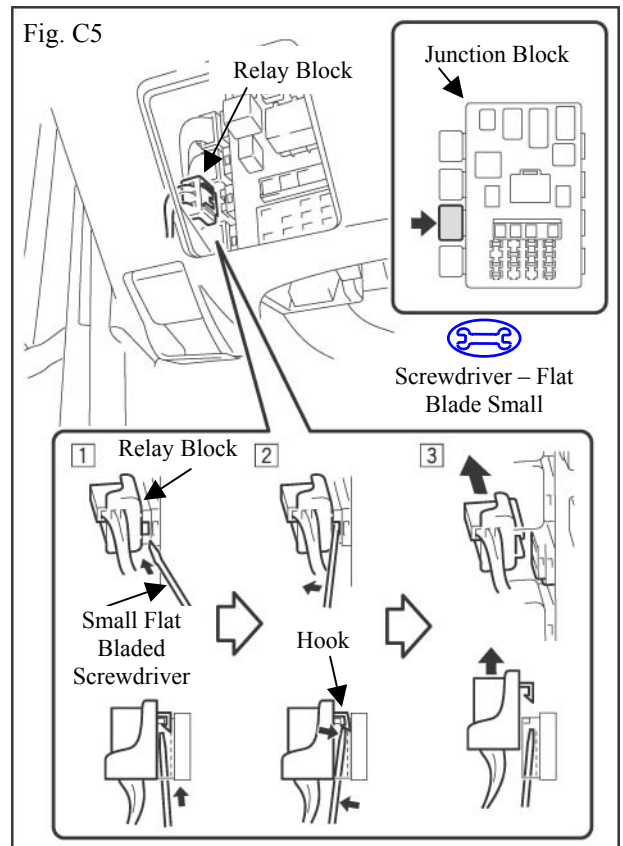

Fig. C5
- 10. Remove the relay block using a small flat bladed screwdriver as shown in (Fig C5, Steps ①, ②, & ③).